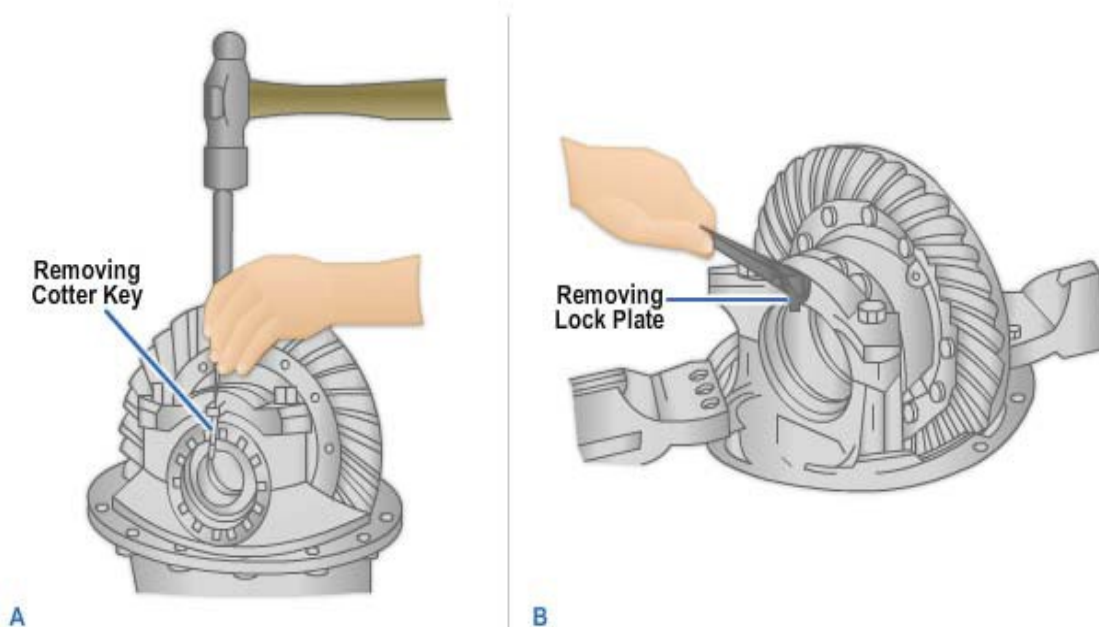

Figure 8-70 - Removing the cotter key and lock plate.
5. Remove the cotter keys, pins, or lock plates that hold the two bearing adjusting rings in position. Use a small drift and hammer to remove the pins. Each lock plate is held in position by two capscrews (Figure 8-70).